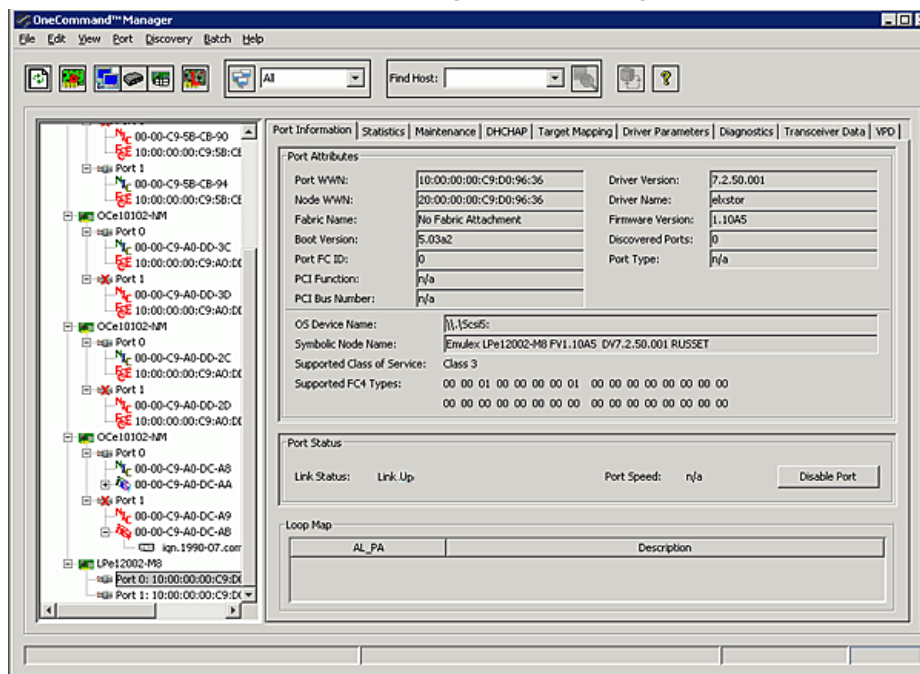

Figure 7-2 FC Port Information Tab
When you select an FC port from the discovery-tree, the Port Information tab (Figure 7-2 on page 66) contains general attributes associated with the selected FC adapter.
3. Select the **Port Information** tab (Figure 7-2 on page 66).